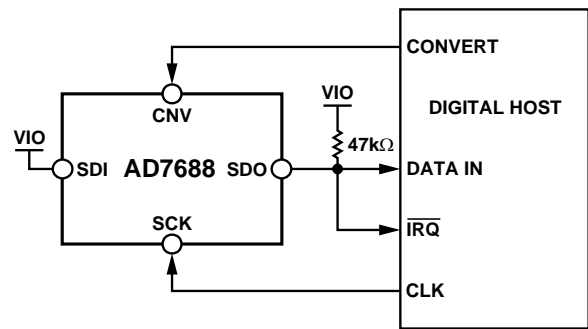
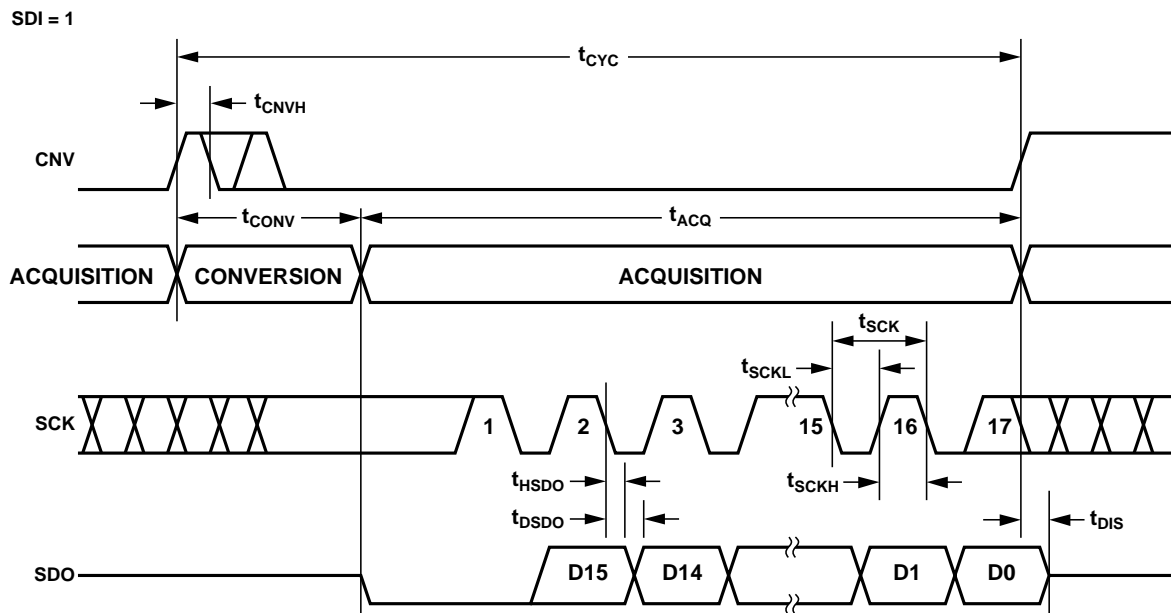
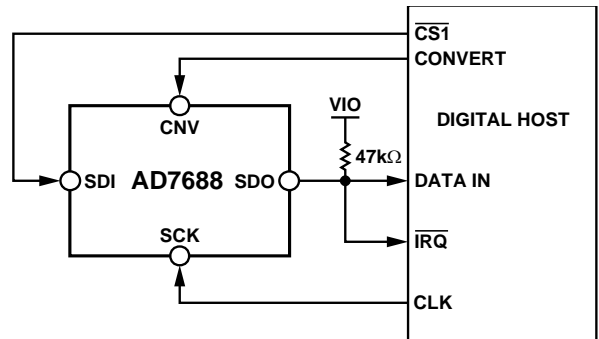
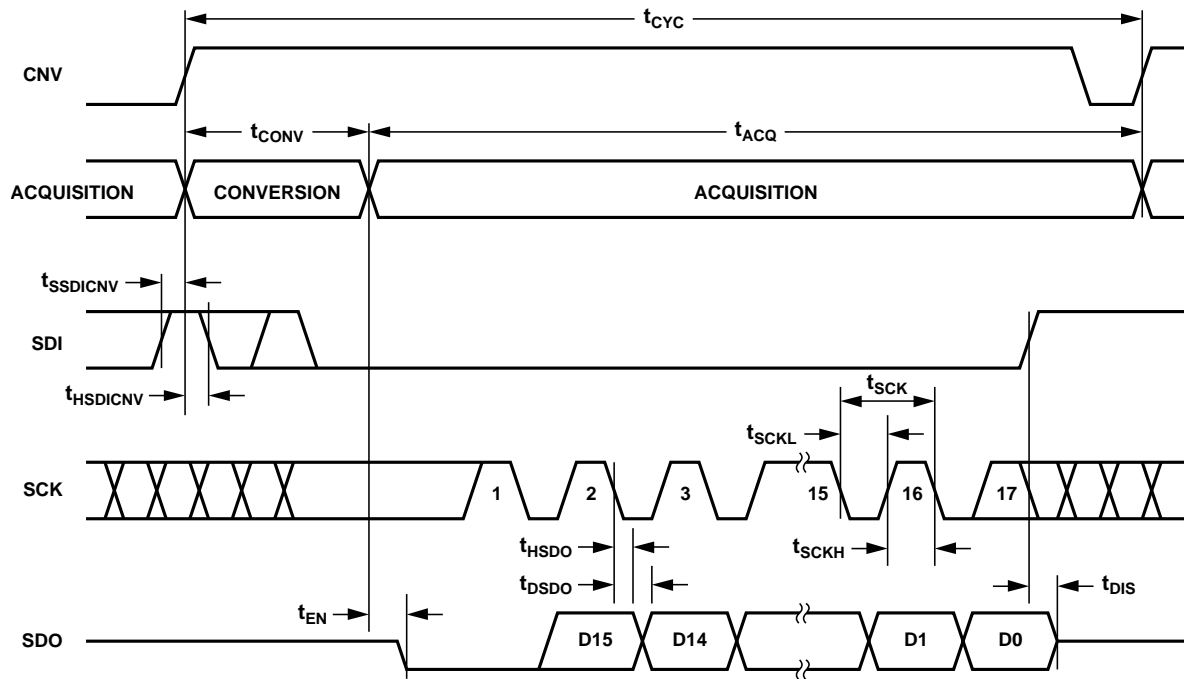

Figure 36. \overline{CS} Mode 3-Wire with BUSY Indicator Connection Diagram (SDI High)
Figure 37. \overline{CS} Mode 3-Wire with BUSY Indicator Serial Interface Timing (SDI High)
Figure 40. CS Mode 4-Wire with BUSY Indicator Connection Diagram
Figure 41. CS Mode 4-Wire with BUSY Indicator Serial Interface Timing
- In the \overline{CS} mode, if CNV or SDI is low when the ADC conversion ends (Figure 37 and Figure 41).
The connection diagram is shown in Figure 36 and the corresponding timing is given in Figure 37.
The connection diagram is shown in Figure 40 and the corresponding timing is given in Figure 41.